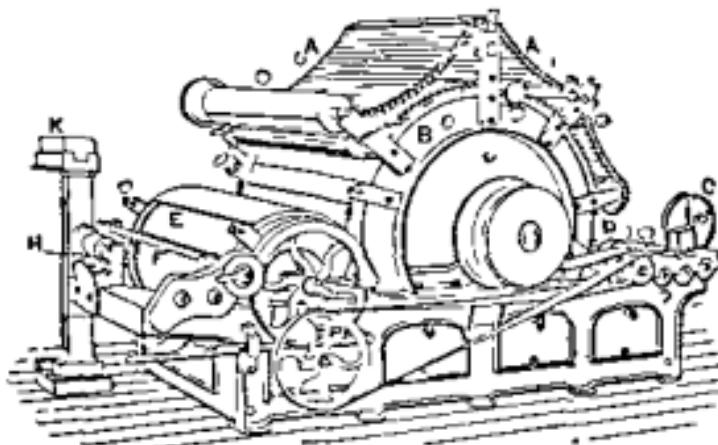

FIG. 76.—Diagram of a Carding machine.
The *carding-machine* does two things—(1) it gives the cotton a further cleansing; (2) it begins to straighten out the fibres. Fig. 76 is an illustration of a flat carding-machine. The roll of finished